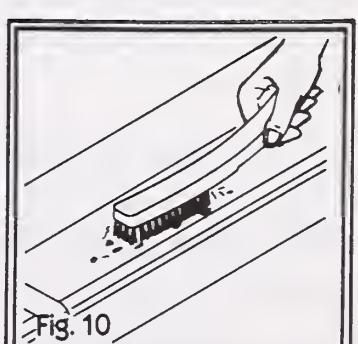

Fig. 10
1. Once you locate the leak, use the wire brush to clean the area of the leak free of loose metal and rust (fig. 10). Then wipe clean with a cloth.